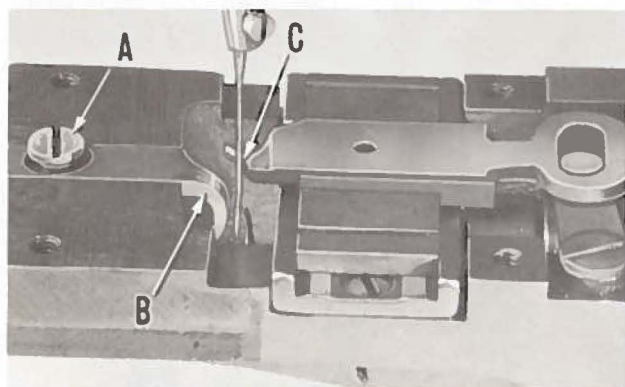

Fig. 7
NOTE: Fig. 7 shows the machine with needle plate, feed plate and tacking clamp removed. This has been done for clarity only. These parts need not be removed to make the adjustments.
Loosen needle guard clamp screw (A, Fig. 7) and slide needle guard (B) forward. Insert a screwdriver behind the loop positioning finger (C) and pull the finger forward. There should be only the slightest amount of clearance between the finger and needle, approximately .002 inch.
Rotate the pulley in operating direction until the lower timing line on the needle bar is even with the lower edge of the needle bar bushing. Rotate the sleeve (B) so that the point of the hook is at the center of the needle on the back side and tighten both screws (A) in the sleeve. Loosen hook collar clamp screw (E) and slide hook (G) so that there is the smallest amount of clearance between its point and the needle and retighten hook clamp screw. Loosen set screw (C) in cam (D) and rotate cam so that its timing line coincides with the timing line on the sleeve (F). Tighten screws in cam, making sure that the cam is against the sleeve. Turn the pulley in operating direction until the needle bar is at its lowest position and slide the needle guard (B, Fig. 7) in the direction of the needle until there is a clearance of about .002 inch between it and the needle. Retighten clamp screw (A) securely.